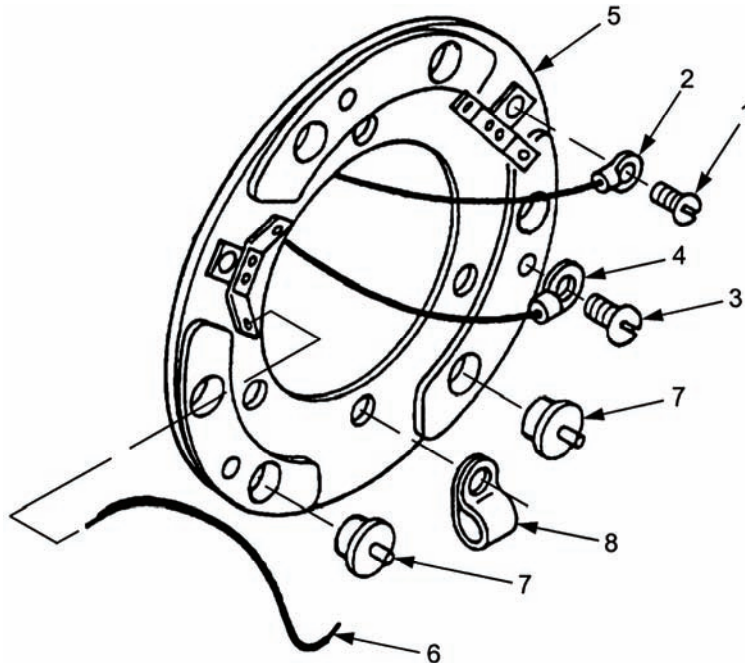
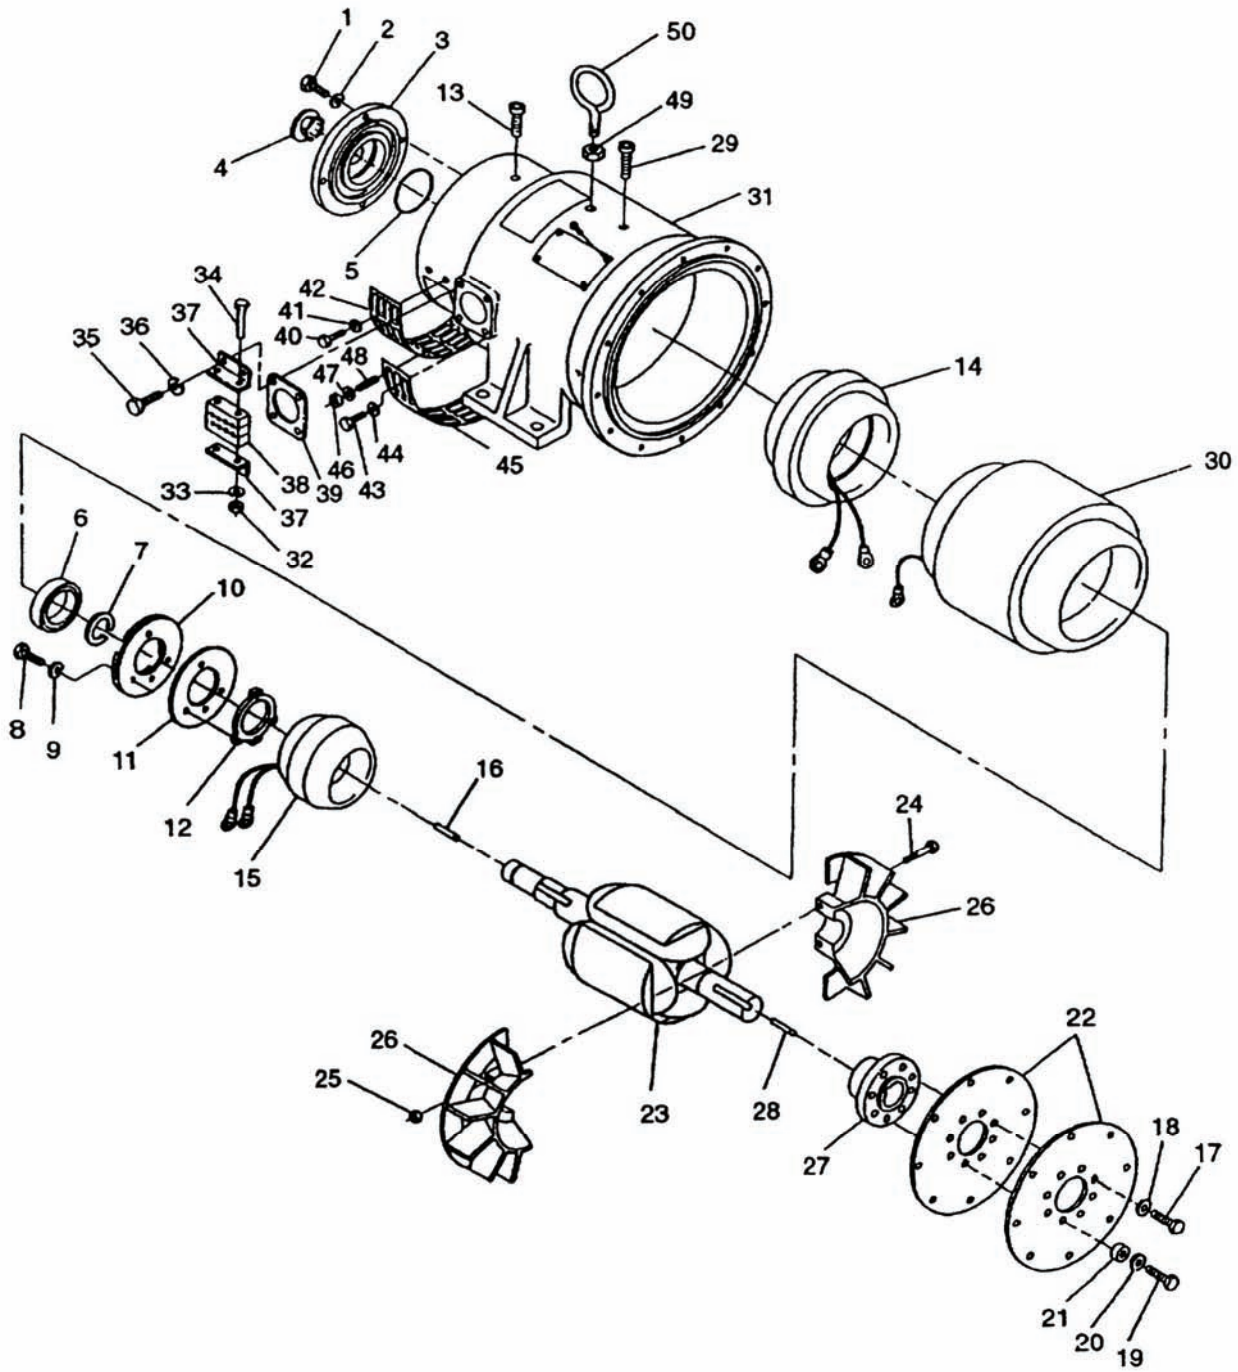
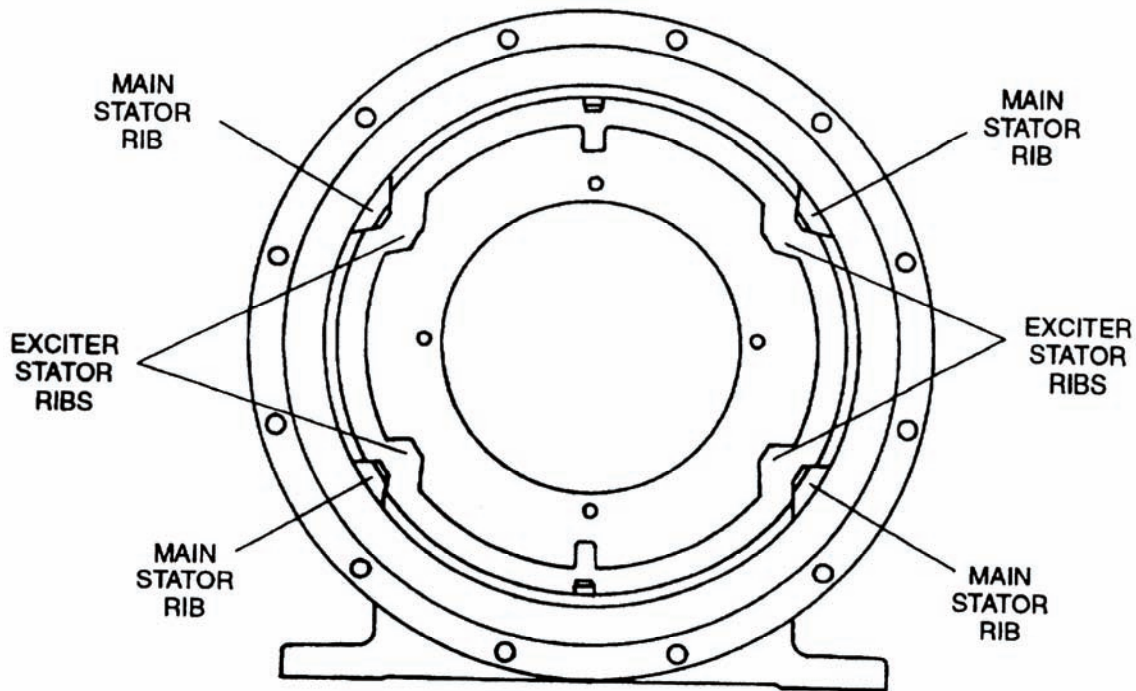

Figure 4-10. Rectifier Assembly – MEP-804A/MEP-804B.
Figure 4-11. Generator Assembly – MEP-804A/MEP-804B.
Figure 4-12. Generator Housing Rib Locations.
- e. Tag main rotor leads (2, Figure 4-10). Remove screws (1) and main rotor leads (2) from diode mounting plate assembly (5).
- f. Tag exciter rotor leads (4). Remove screws (3) and exciter rotor leads (4) from diode mounting plate assembly (5).
- g. Set multimeter for ohms and connect positive lead to one side and negative lead to other side of each diode (7). Record multimeter reading for each diode.
- j. Install exciter rotor leads (4) and main rotor leads (2) to diode mounting plate assembly (5) with screws (1) and (3). Remove tags.
- f. Unsolder electrical lead (6, Figure 4-10) from diode (7) being removed.
- g. Press diode (7) from diode mounting plate assembly (5).
- a. Run bead of thermal-electric compound (Item 8, Appendix C) around base of diode (7, Figure 4-10) prior to installing.
- b. Press diode (7) into diode mounting plate assembly (5).
- c. Using solder (Item 19, Appendix C) and soldering iron, solder electrical lead (6) to diode (7).
- d. Remove bolts (1, Figure 4-11), lock washers (2), and end bell (3) from generator assembly. Discard lock washers (2).
- e. Remove plug (4) and packing (5) from end bell (3), if necessary.
- a. If removed, install retaining ring (7, Figure 4-11) on main rotor assembly (23) shaft.
- e. Remove screws (3, Figure 4-10) securing exciter rotor leads (4) to rotating rectifier (3 places). Tag and remove exciter rotor leads (4).
- f. Remove screws (1). Tag and remove main rotor leads (2) from rotating rectifier (2 places).
- g. Remove bolts (8, Figure 4-11), lock washers (9), rotating rectifier (10), and insulating plate (11) from rectifier hub (12). Discard lock washers (9).
- h. Remove clamp (8, Figure 4-10) from diode mounting plate assembly (5), if necessary.
- a. If removed, install clamp (8, Figure 4-10) on diode mounting plate assembly (5).
- b. Install rotating rectifier (10, Figure 4-11) and insulating plate (11) on rectifier hub (12) with bolts (8) and new lock washers (9).
- c. Connect two main rotor leads (2, Figure 4-10) to rotating rectifier with screws (1). Remove tags.
- d. Connect three exciter rotor leads (4) to rotating rectifier with screws (3). Remove tags.
- h. Remove setscrews (13, Figure 4-11) from generator housing (31).
- i. Apply heat evenly to ribs of generator housing (31) at end bell section using an acetylene torch with a rose bud tip. Refer to Figure 4-12 for location of ribs. Heat ribs until exciter stator (14) drops down and lift off housing (31).
- a. Stand generator housing (31, Figure 4-11) on end with end bell opening in a downward position.
- b. Position exciter stator (14) in generator housing (31). Ensure exciter stator wires are pointing upward and are in alignment with wiring port on side of generator housing (31).
- c. Apply heat evenly to ribs of generator housing (31) at end bell section using an acetylene torch with a rose bud tip. Refer to Figure 4-12 for rib locations. Heat ribs until exciter stator (14) drops into position.
- d. Install setscrews (13) in generator housing (31).